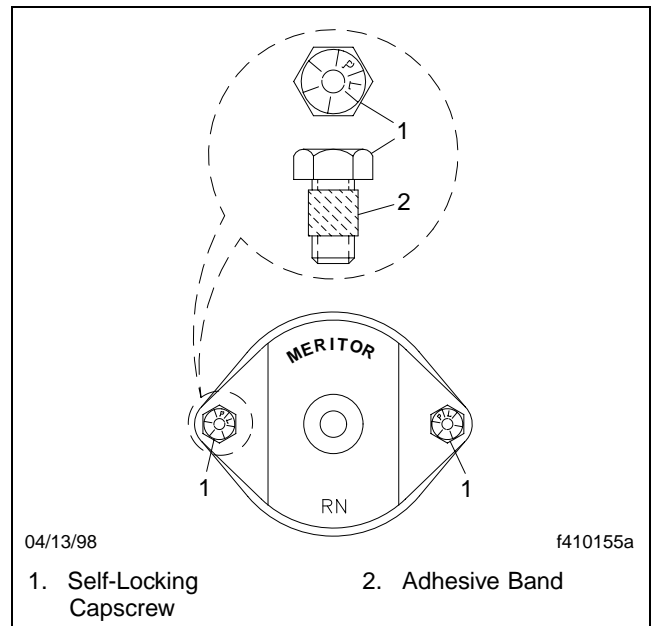

Fig. 6, Meritor U-Joint Fasteners for Full-Round Yokes
- 15.4 Install *new* bearing-cup-plate self-locking capscrews (**Fig. 6**). Tighten the capscrews until all the parts are drawn down tight, with no gaps; do not tighten the capscrews to their final torque value.